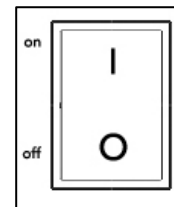

Figure 2
- Make sure the on/off switch on the power supply is in the off position and then connect the power cord from the power supply to a power outlet (Figure 2).